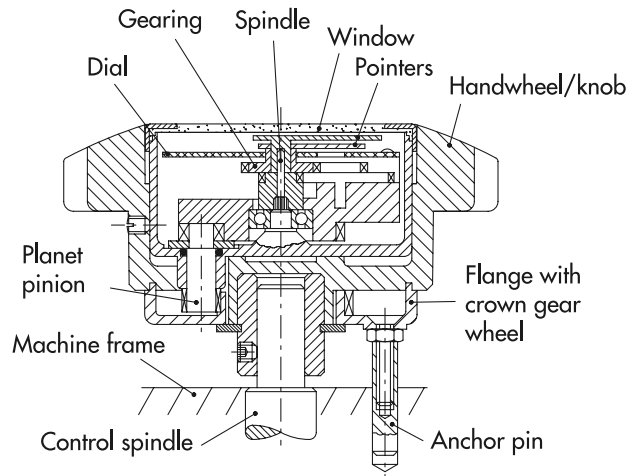

Fig.4
- 1.2 The movement is housed in a sealed case (fig. 4). The handwheel/knob, containing the indicator, is coupled to the control spindle. On the rear of the handwheel/knob a flange with internal crown gear wheel (shrouded) is fitted to the machine frame by means of an anchor pin (or similar). By so doing, during handwheel rotation, the flange is integral with the machine. The rotation of the handwheel causes the planet pinion to rotate, transmitting in this way the movement inside the indicator case. The rotation is then transmitted to both pointers by means of a gearing, while the graduated dial remains still thanks to the fixing to the machine frame by means of the anchor pin.